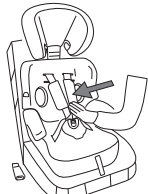

Fig. 1
**Step 1:** Place the child safety seat on the vehicle's seat which is fitted with 3-point safety belts ensuring it is firmly pressed against the car seat backrest(Fig.1)
**Step 2:** Pull out the vehicle belt, Thread the belt tongue(include vehicle belt)through the Adult belt route slot to the rear and through the backrest,through the other adult belt route slot(on the buckle side).and allow it to lock in place. You will hear "click"(Fig.1).